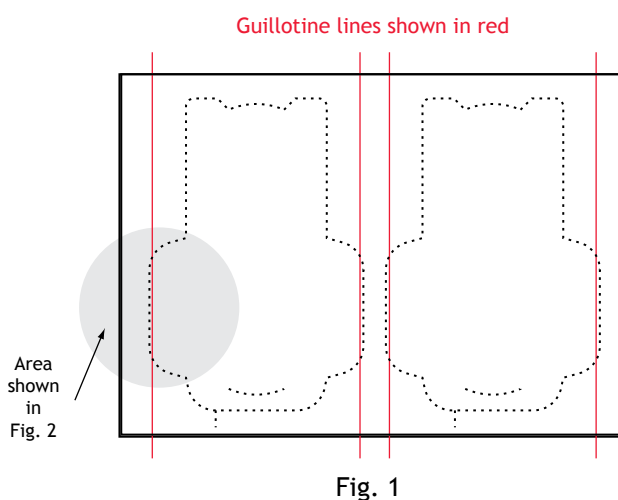

Fig. 1
1. Guillotine 2mm inside 2 of the perforated edges of each CD Wrap as indicated in Fig.1 & 2